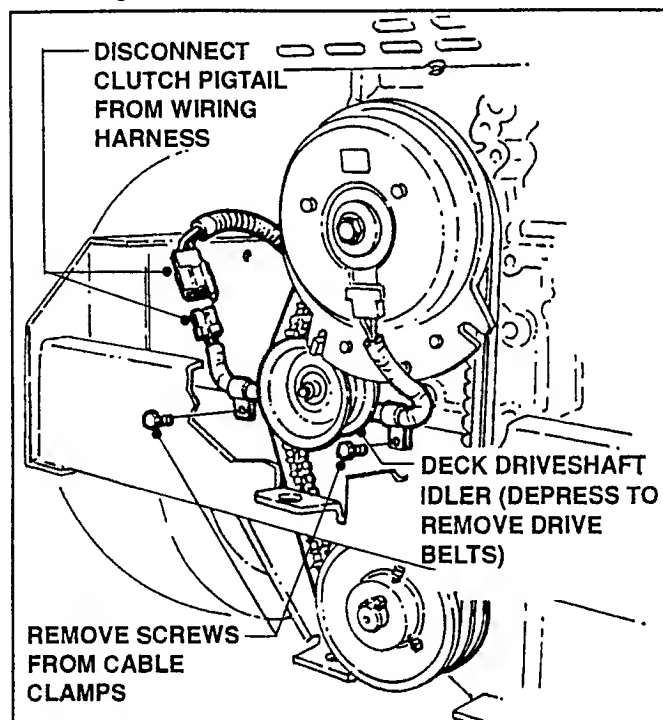

FIGURE 4.4
- D. Disconnect electric clutch pigtail from wiring harness and remove fasteners from cable clamps. See Figures 4.4.
- E. Depress deck driveshaft idler and remove drive belts. Refer to Figure 4.4.